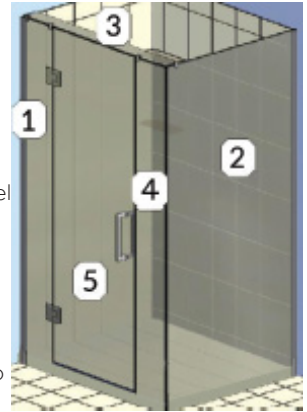

FIG.10
- When panels are correctly aligned, remove Panel 1 (FIG 10), and run a thick continuous line of silicone down the inside of the wall channel (FIG 11) and apply liberally in the wall to floor channel join and along the floor channel to the length of the glass panel.